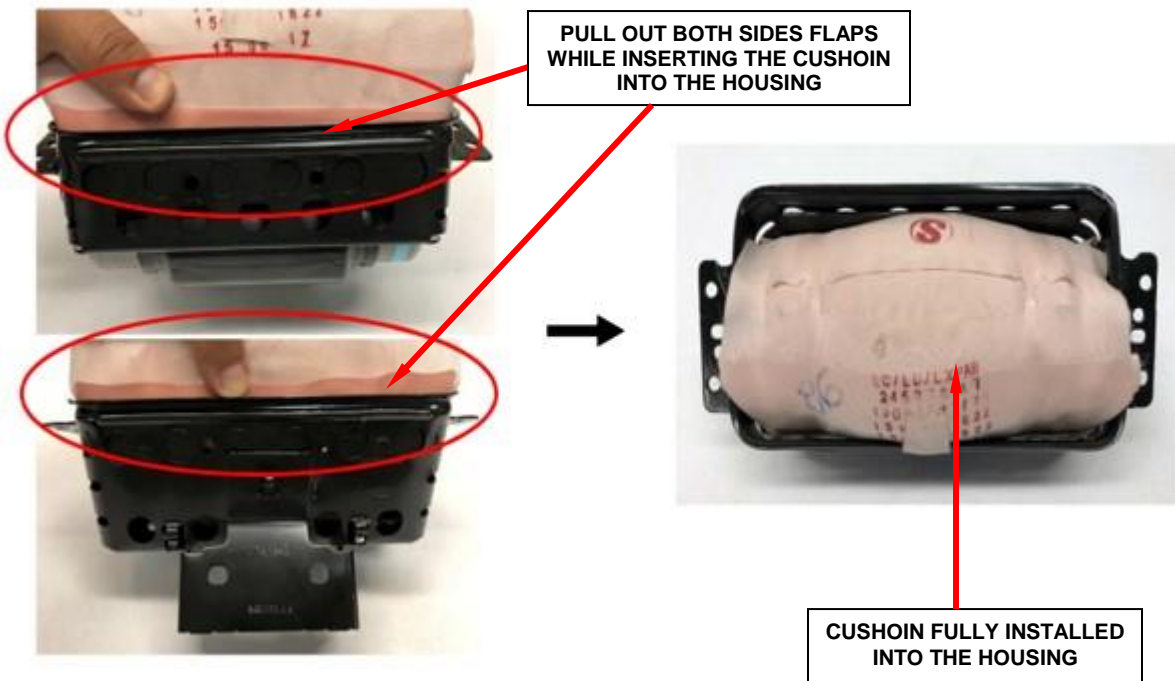

Figure 68 – Side Flaps Must Be Held Out
- 1. Insert the cushion, pulling out both side flaps (Figure 68).